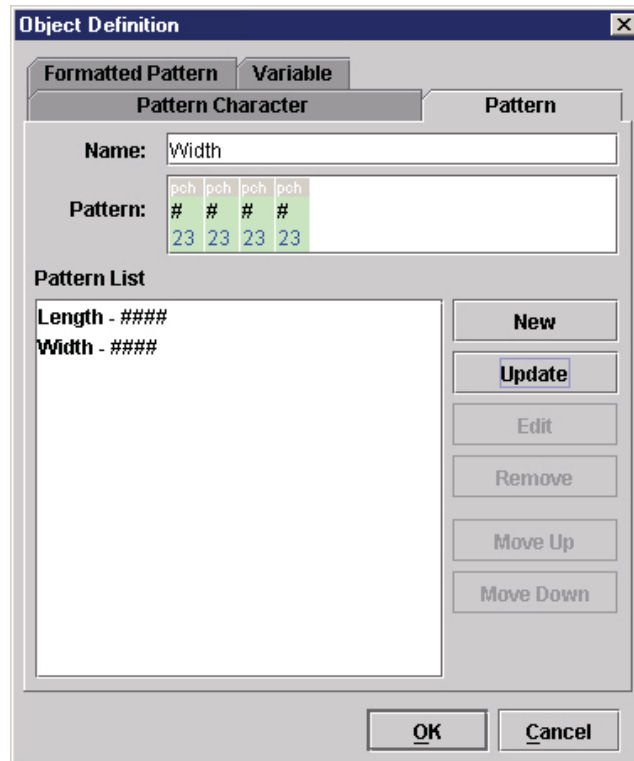

Figure 157 Defining Patterns
13. Click **Add** to add the pattern to the list. See Figure 157.